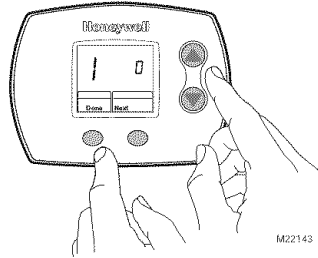

Fig. 17. Configure Installer Setup.
2. Release the Up and Fan buttons when the display on the thermostat matches the display in Fig. 17.